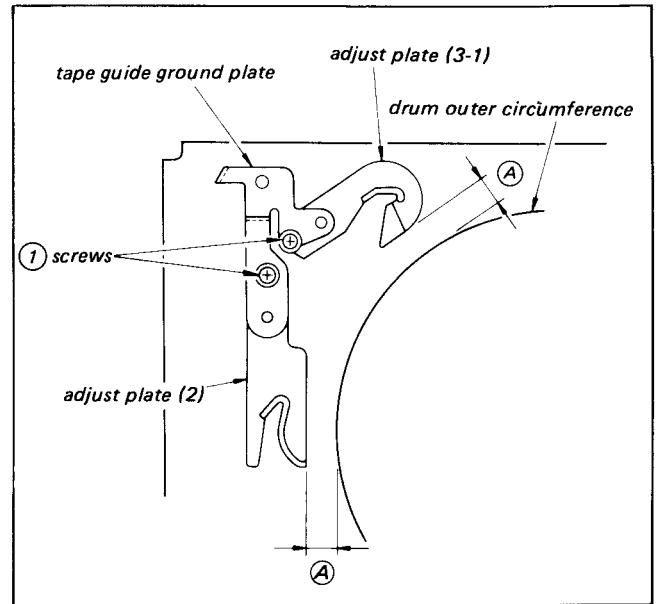

Fig. 3-5. Replacing Drum
- 1) Measure and record the two gaps (A) between the upper drum tape holding section and the adjust plates (in Fig. 3-5). (Do not forget to do this, as the adjust plate mounting position affects the tape path.)
- 2) Unscrew the screws ① shown in Fig. 3-5 and remove the tape guide ground plate and adjust plates (2) and (3-1).
- 1) Measure the gap between the upper drum and the adjust plate as for replacement of the drum assembly. (Fig. 3-5)
- 2) Unscrew the two screws ① and remove the tape guide ground plate ② and adjust plate ③.
- 3) Unscrew the two screws ④ and remove the tape holder assembly ⑤
- 4) Unscrew screw ⑥ and remove the guide plate ⑦
- 5) Unscrew the two screws ⑧ and five screws ⑨ to remove the shuttle guide (1-YA) ⑩ and (2) ⑪ as well as the slant base assembly ⑫
- 6) Unscrew screw ⑬ and remove the pin link liner plate ⑭